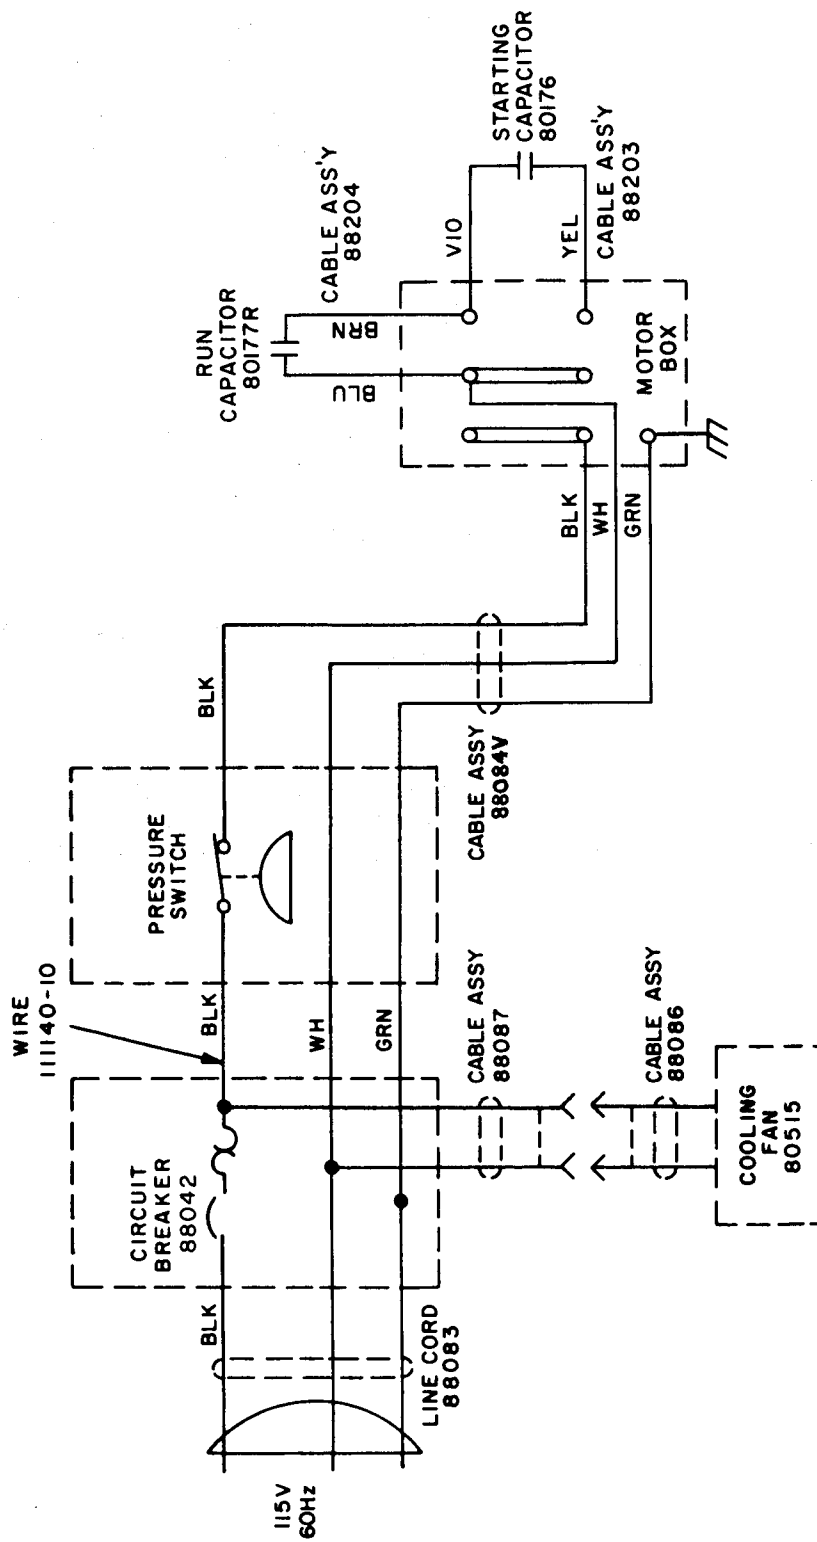

Figure 5-1. Compressor Wiring Diagram
- d. Remove black, green and white pressure switch wires from under appropriate screws within motor box. Remove yellow, violet, blue and brown capacitor wires from under appropriate screws within motor box. (Refer to wiring diagram, Figure 5-1.)